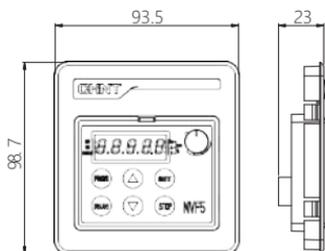

Figure 6-7 Outline dimensions of support plate
- b) For second option, the display is mounted on the support plate. Perforate according to the dimensions of the support plate, see the dimensions in Figure 6-7 and Figure 6-8: